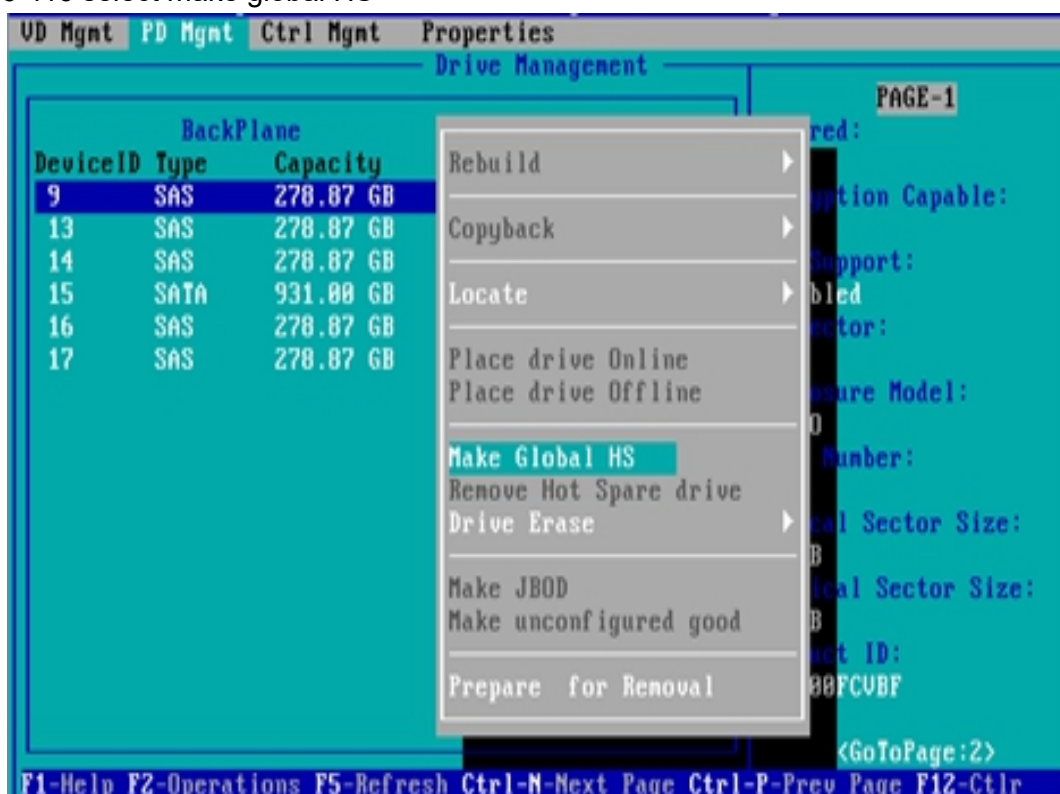

Figure 6-116
- b) Enter the interface shown in figure 6-116, select make global HS, and press enter to complete the configuration of global hot spare.
✧ Figure 6-116 select make global HS